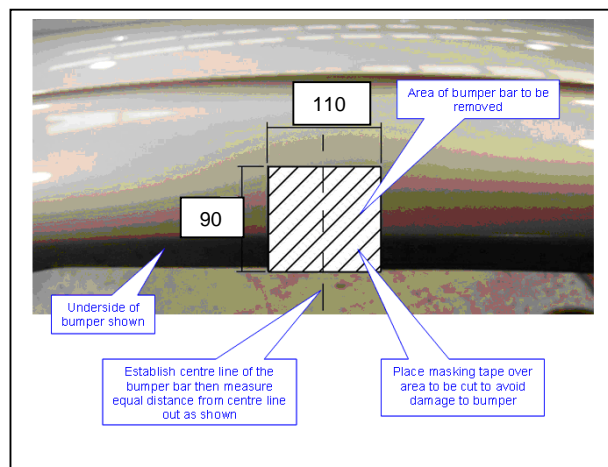

Figure 7 – Bumper Cut out Diagram. - HATCH
4. Cut the bumper, 90mm in height and 110mm in width, as illustrated in Figure 7.